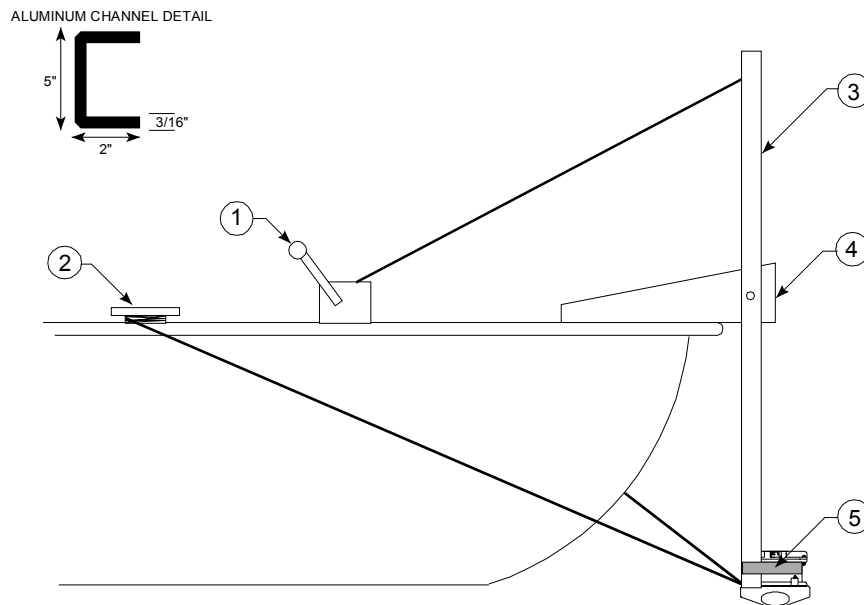

Figure 8. Mounting an ADCP to a Platform
- Mount to the platform (see Figure 8).